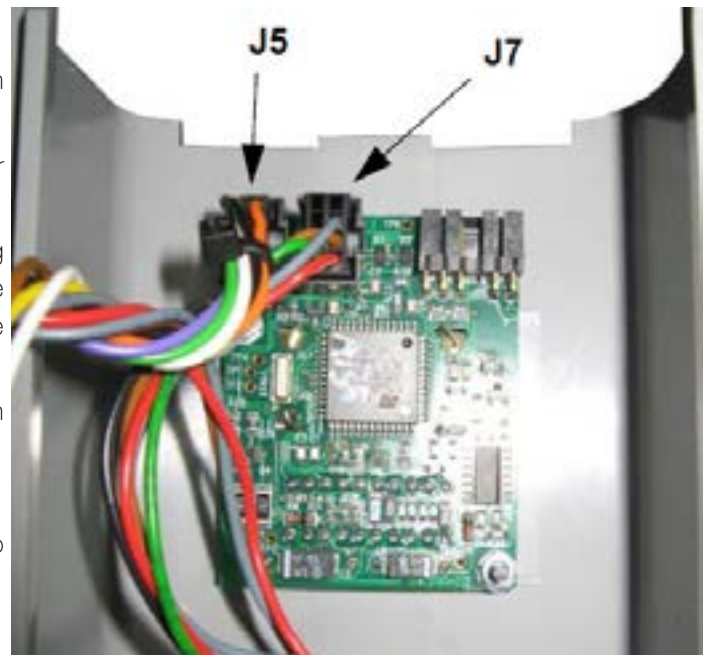

Fig. 24
2. Unplug J5 and J7 connectors as shown on electric diagram from battery discharge indicator PCB (see Fig. 24).